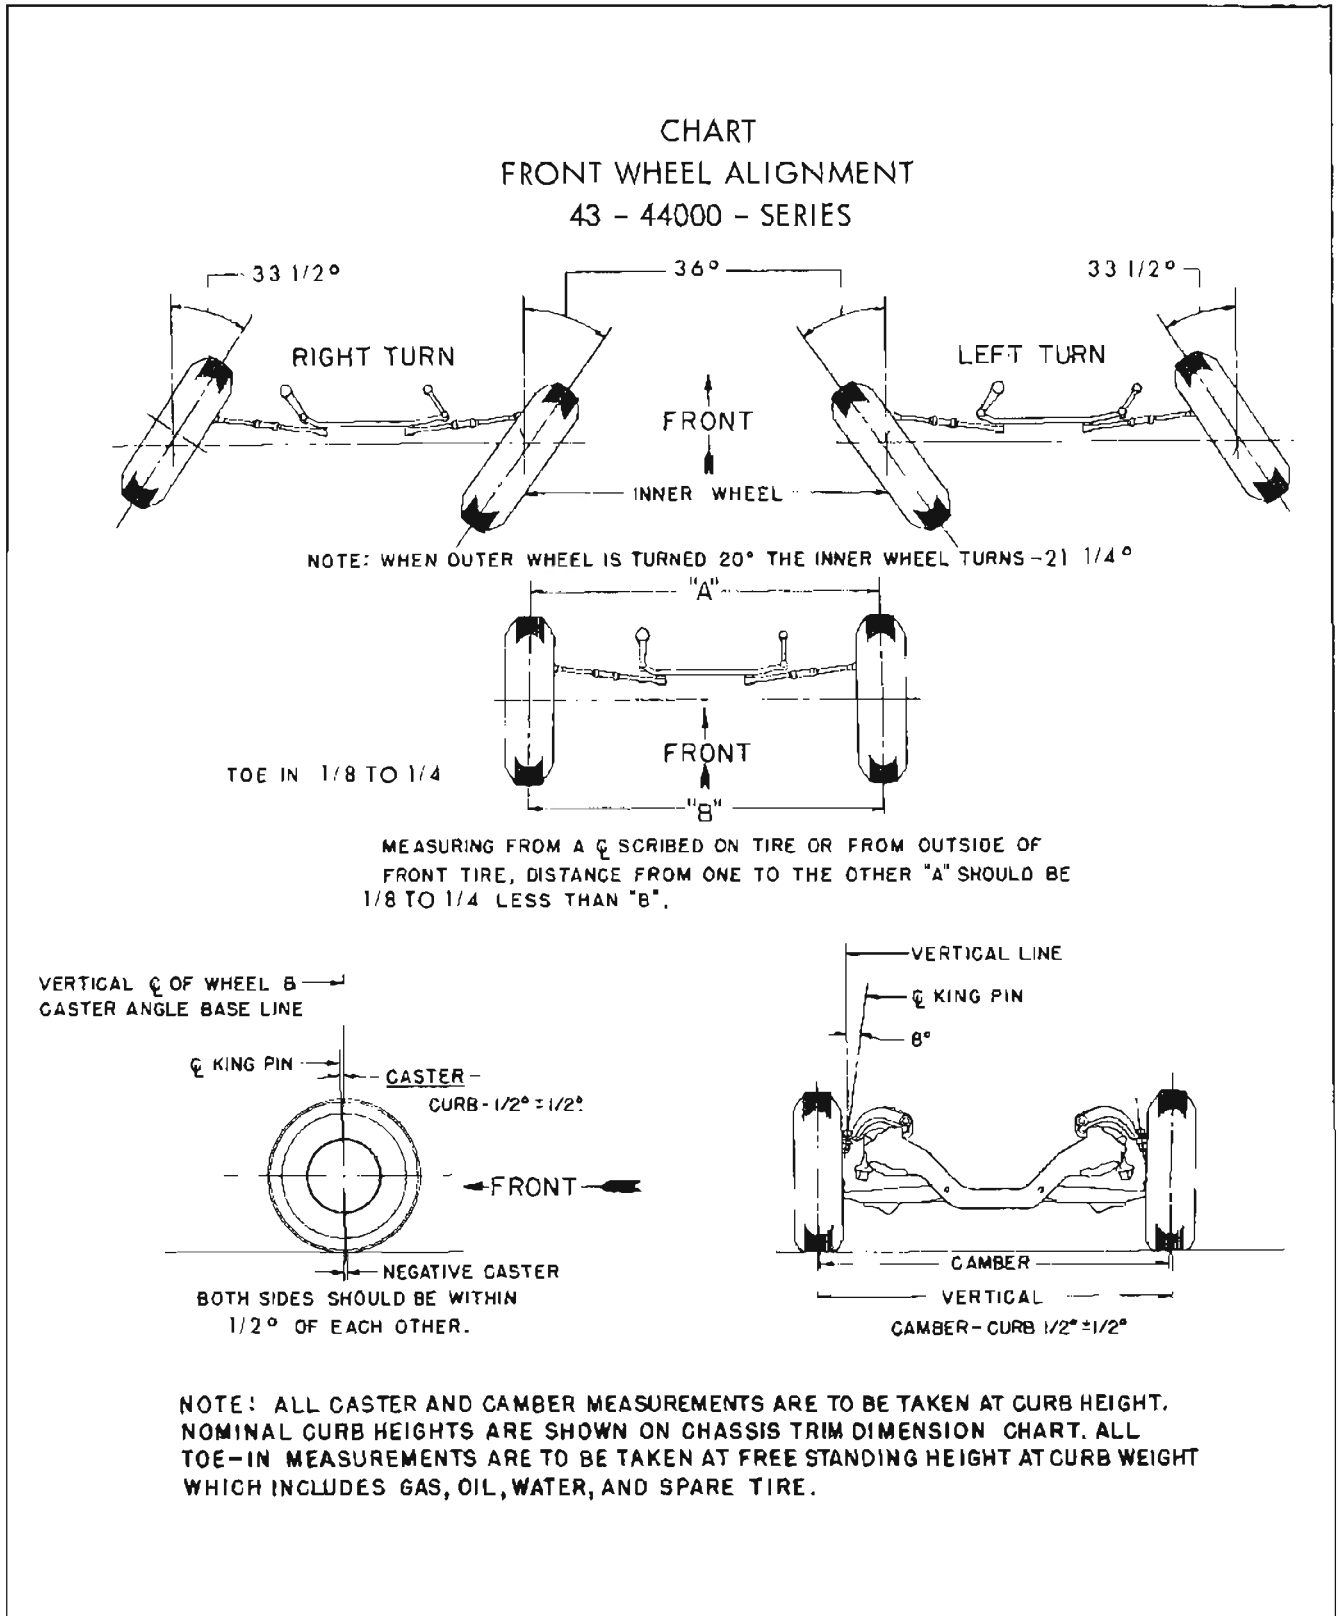

Figure 7-30—Front Wheel Alignment
Readings must be taken at points which have no run-out or which lie in the same plane. Caster and camber should be within limits shown in Figure 7-30. Note that the caster angles at both front wheels need not be exactly the same but must be within 1/2 degrees of each other. Likewise, the camber angles on both sides must be within 1/2 degrees of each other. If caster and camber are not within the specified limits, adjust as described below.
With camber known to be within specified limits, theoretical king pin inclination should check within specified limits given in Figure 7-30
3. Using a suitable toe-in gauge, measure the distance between outside walls of tires at the front at a height approximately horizontal to floor and through the centerline of the wheel assembly. See Figure 7-30.
The measurement at the front (dimension "A") should be 7/32" to 5/16" less than the measurement at the rear (dimension "B"). See Figure 7-30.
1. With the front wheels resting on full floating turntables, turn wheels to the right until the outside (left) wheel is set at 20 degrees. The inside (right) wheel should then set at 21-1/4°. See Figure 7-30.